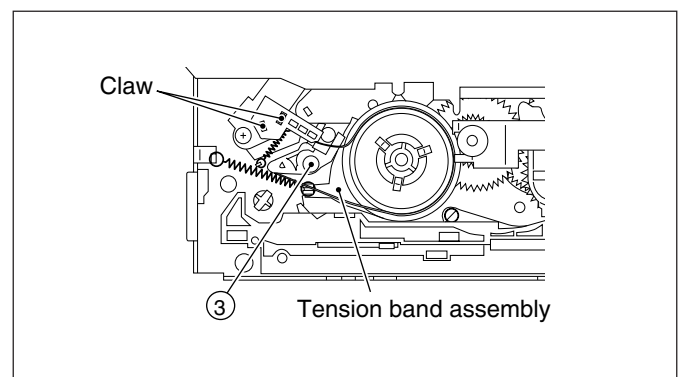

Fig. 2-3-5
- (2) Release the claw and then release the tension band assembly from the reel disk (S). (Refer to Fig. 2-3-5.)
- (3) Remove the reel disks (S, T).
- (4) Remove the screw ⑧ and remove the control bracket 2.